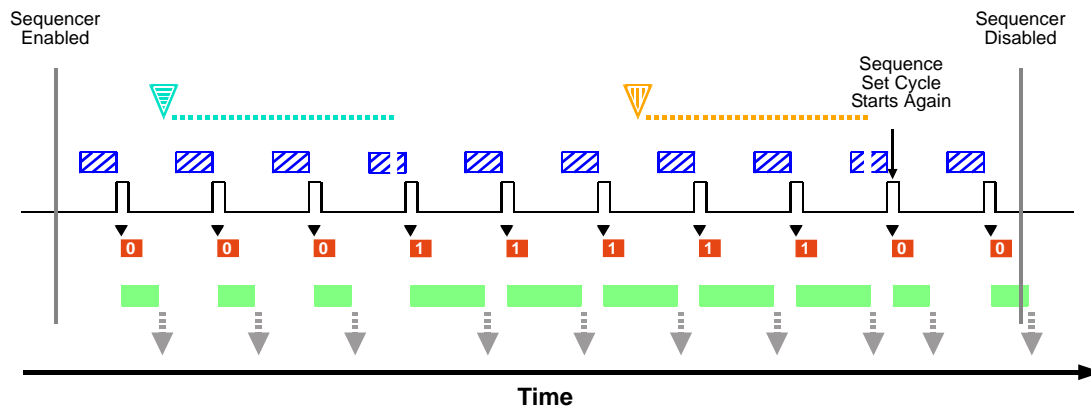

Fig. 96: Sequencer in Controlled Sequence Advance Mode with Disabled as the Sequence Control Source and Asynchronous Advance and Restart
The following use case (see also Figure 96) illustrates the operation of the sequencer in controlled sequence advance mode with Disabled selected as the sequence control source. Sequence set advance proceeds in ascending sequence set index numbers subject to asynchronous advance commands. After one sequence set cycle is complete, another one starts. Sequence set cycle restarts are subject to asynchronous restart commands.
- When the AsyncAdvance command becomes effective, the camera happens to be in "waiting for frame start trigger" status. The parameter values of the next sequence set, i.e. of sequence set 1, are loaded into the active set. Note that the camera briefly exits the "waiting for frame start trigger" status while the parameter values of sequence set 1 are loaded into the active set (see also Figure 96).
- When the AsyncRestart command becomes effective, the camera happens to be in "waiting for frame start trigger" status. The parameter values of sequence set 0 are loaded into the active set. Note that the camera briefly exits the "waiting for frame start trigger" status while the parameter values of sequence set 1 are loaded into the active set (see also Figure 96).